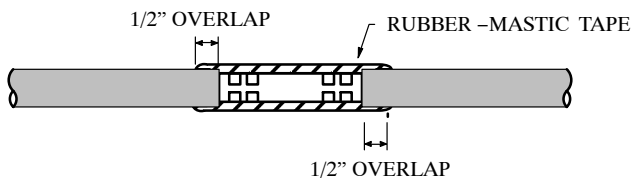

FIGURE 4
5. Overwrap the installed connector with the rubber-mastic tape provided. Apply the tape with the mastic side in towards the connector. Use the tape to build up the thickness to the level of the cable insulation then overlap the tape 1/2" onto the insulation. **DO NOT** apply an excess amount of the rubber-mastic tape. See Figure 4.